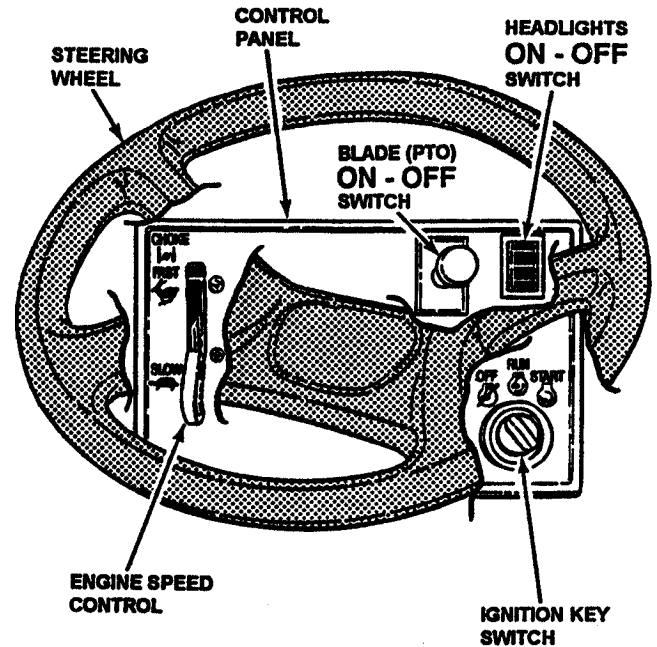

FIGURE 8
4. Choke engine for cold starting by moving engine speed control up to "CHOKE" position, or by pulling choke knob out on twin cylinder models. Little or no choking will be needed when restarting a warm engine. See Figure 8.
7. After engine starts, release key, move the engine speed control out of "CHOKE" to the "FAST" position or, on twin cylinder models, push choke knob in, then allow engine to warm up before proceeding. See Figure 8.